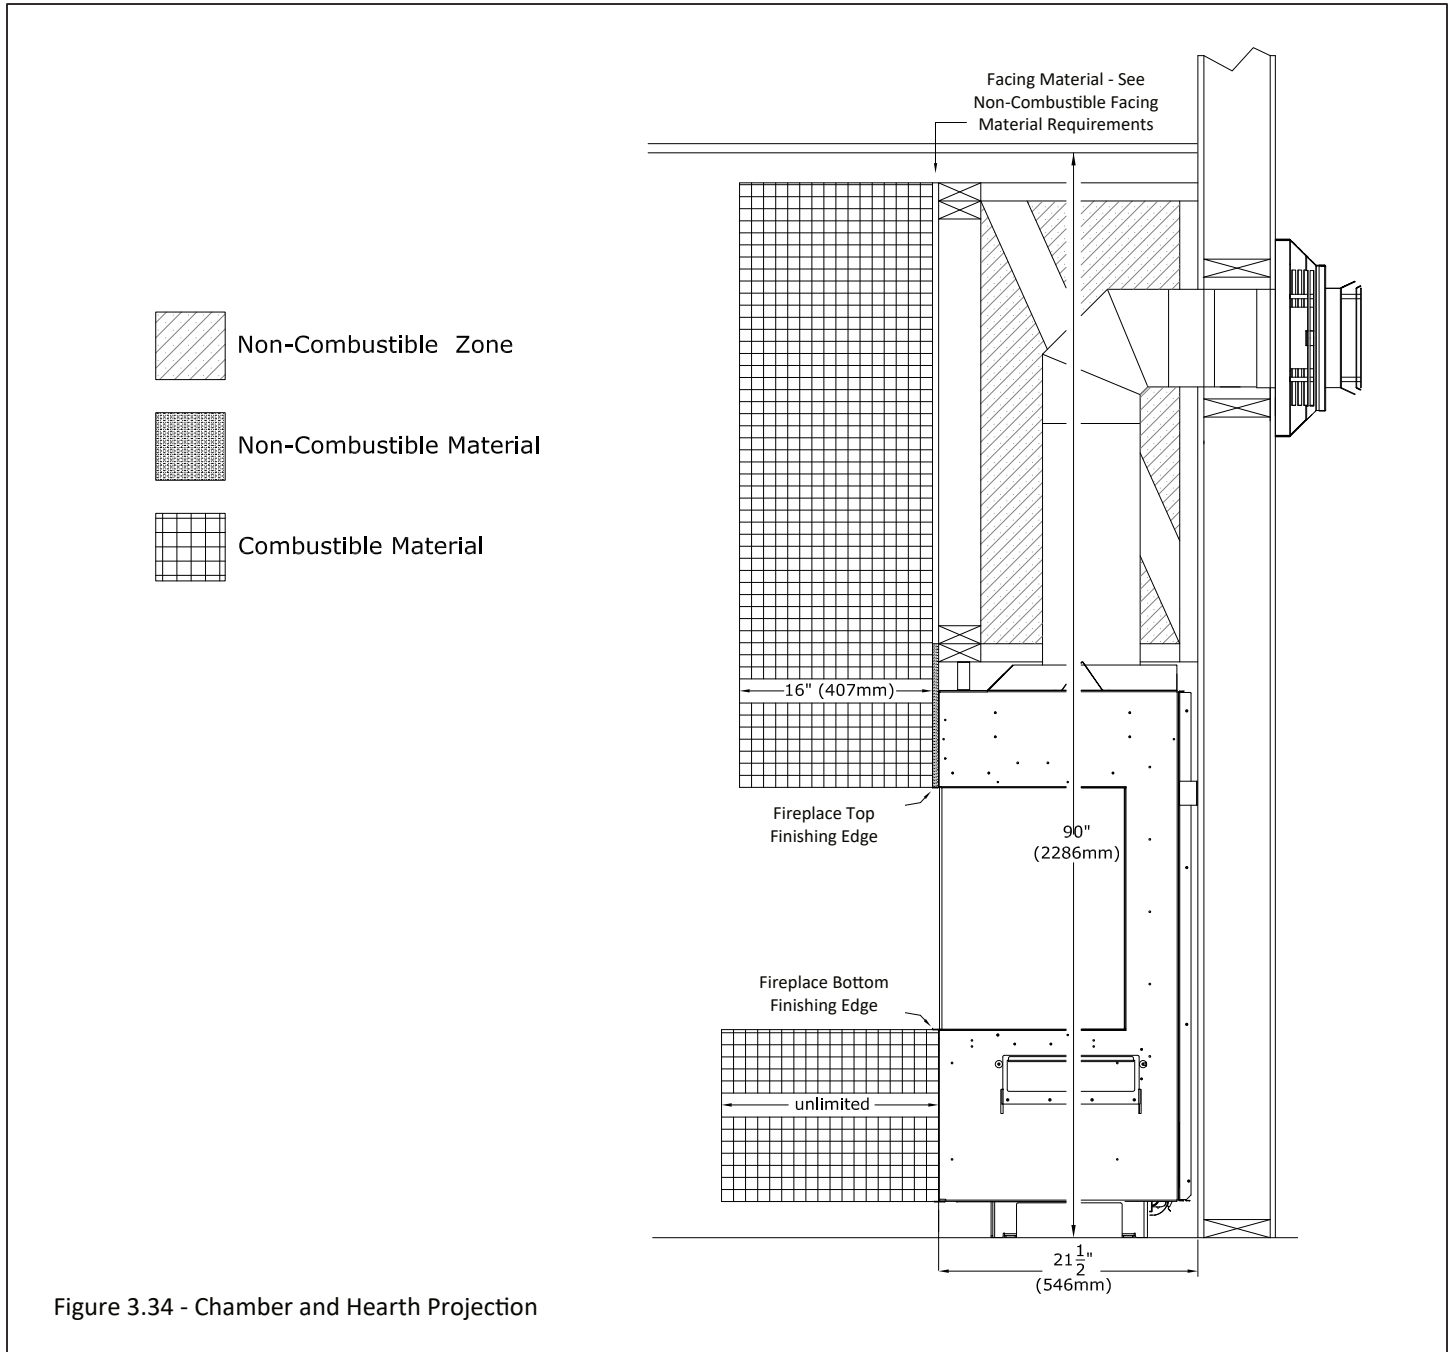

Figure 3.34 - Chamber and Hearth Projection
- **Combustible Chamber Projections:** A maximum of a 16" (406mm) chamber projection can be installed flush at the side and top finishing edge of the fireplace. See Figure 3.34.
Figure 3.34 shows a 16" front chamber projection with a vented cavity. The air intake and heat release openings of the fireplace chamber must maintain their clearances for the option you have chosen throughout the entire fireplace chamber and projection. The hearth projection is unlimited.